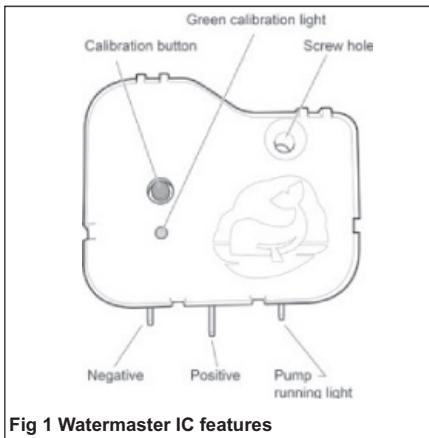
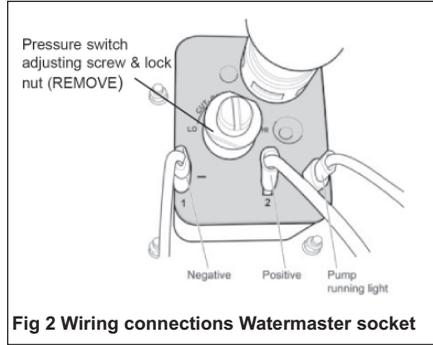

Fig 1 Watermaster IC features
Fig 2 Wiring connections Watermaster socket
#### Putting into <<service>> Figure 1.
#### Operation of the <<reserve>> Figure 2.
- Step 2 - Unplug the spade connections on the water inlet socket - ensuring that you note the order of wires for reconnection with the Watermaster IC (See Fig 1 and Fig 2).
- Step 3 - Unscrew and remove the pressure switch adjusting screw and locking nut (see Fig 2)